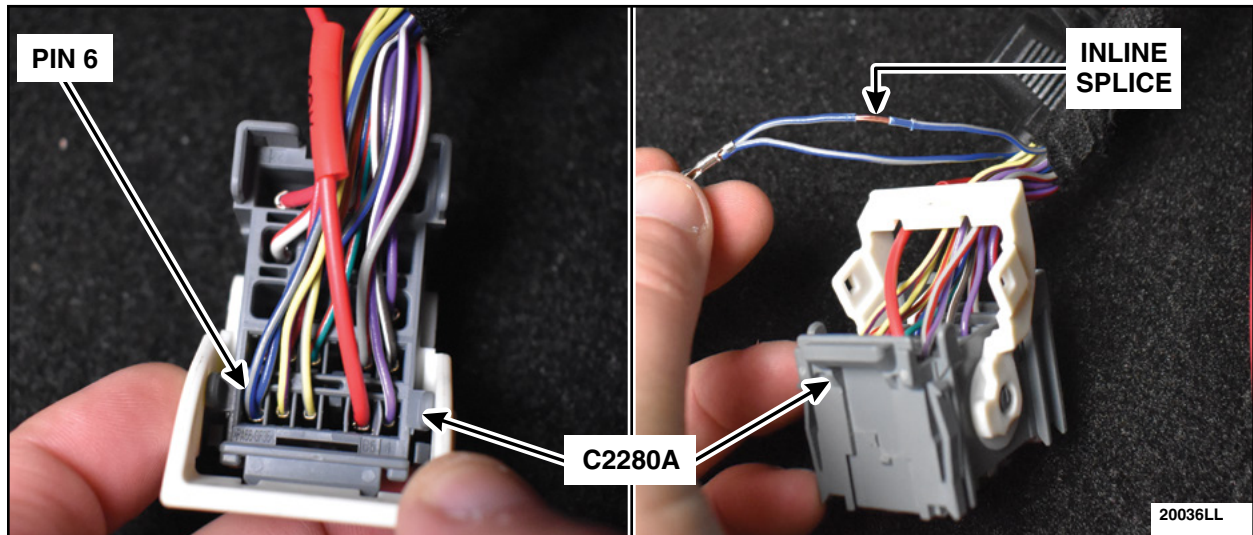

FIGURE 39
57. Remove the wire from pin 6 and strip back the wire coating to begin an inline splice. See Figure 39.